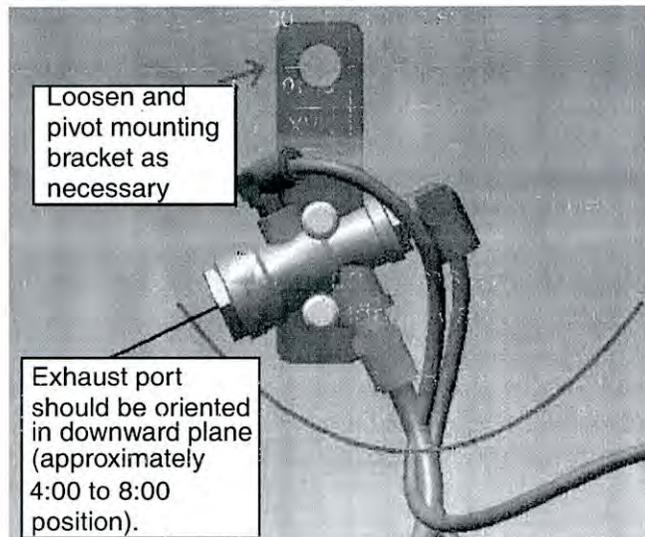

Figure 1 — Position exhaust flapper in a downward plane.
1. Visually inspect the TR-3 inversion valve for proper orientation (i.e. 4-8 o'clock position). If the orientation results in the exhaust port being outside of the 4-8 o'clock position, replace the valve with Volvo part number **85102791** (see Figure 1). All valves must be purchased from a Volvo dealer. Make certain that the existing or replacement valve is installed inside the frame rail with the exhaust facing in a downward plane. It may be necessary to remove and reposition the mounting bracket to ensure the TR3 inversion valve exhaust is facing in a downward plane. Use a grade 8 bolt and lock nut of the proper length to secure mounting bracket to frame. Torque to 140 +/- 24 Nm (103 +/- 18 ft-lb).